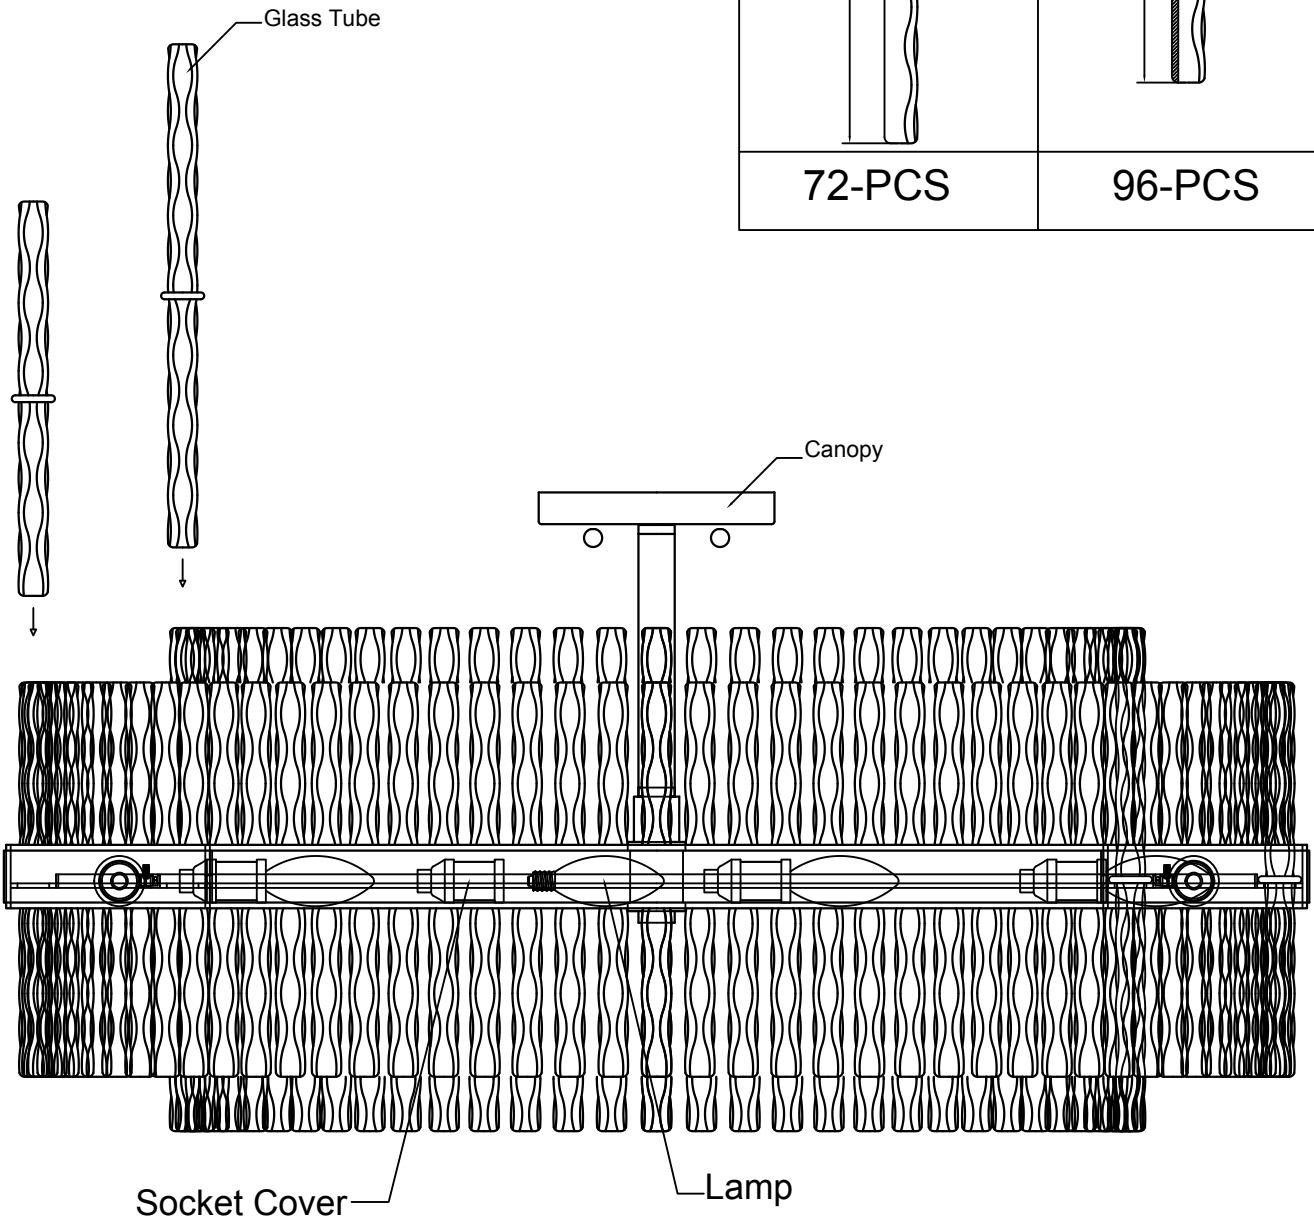

FIGURE-3
10. Place carefully the glass (See figure-3) in the hole.